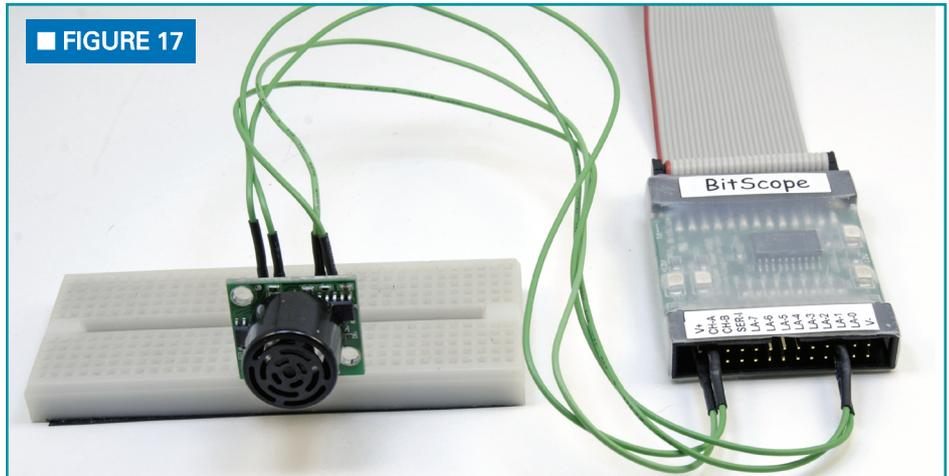
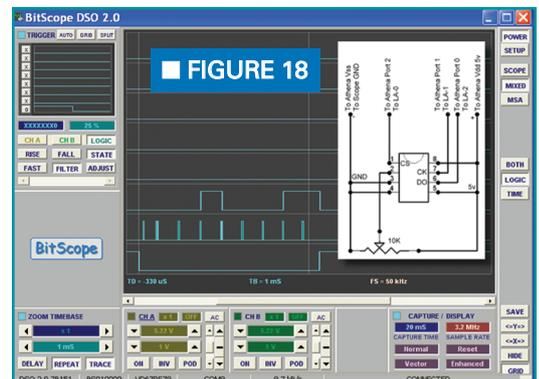

FIGURE 17
FIGURE 18
In this example, I am going to do something a little more complicated. Let's look at the interface between a microcontroller and an ADC0831 eight-bit A-to-D chip. **Figure 17** shows how I connected the chip to both the Athena and the BitScope. I used a 10K potentiometer to change the voltage level to the chip for this experiment. Set the BitScope settings to those shown in **Figure 18**.
You should see the CS, CLK, and DO signals as shown in **Figure 18**. As you vary the potentiometer, you should see the signal (DO) on LA-2 change.